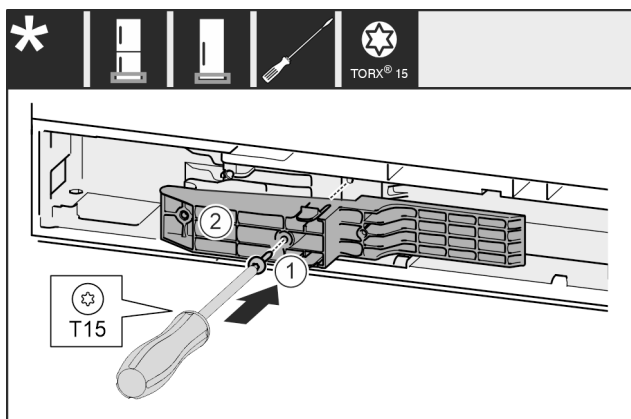

Fig. 67 *
- ▶ 将把手侧的适配件 Fig. 67 (1)插入凹槽。*
- ▶ 将螺钉 Fig. 67 (2)用螺丝刀拧紧。*